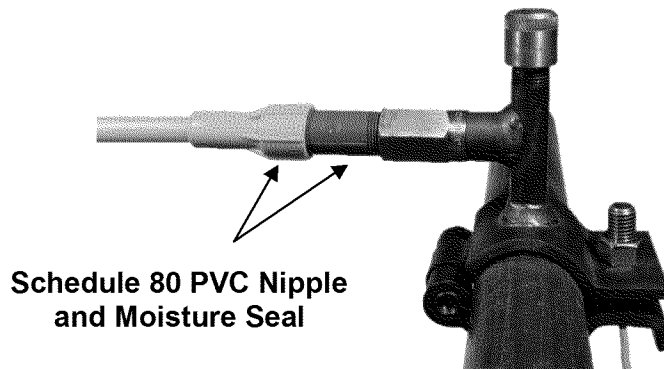

Figure 4. Installation of Schedule 80 PVC Nipple
2.15 Install PVC schedule 80 nipple with moisture seal into the outlet of the line shield nut AND hand tighten (Figure 4).